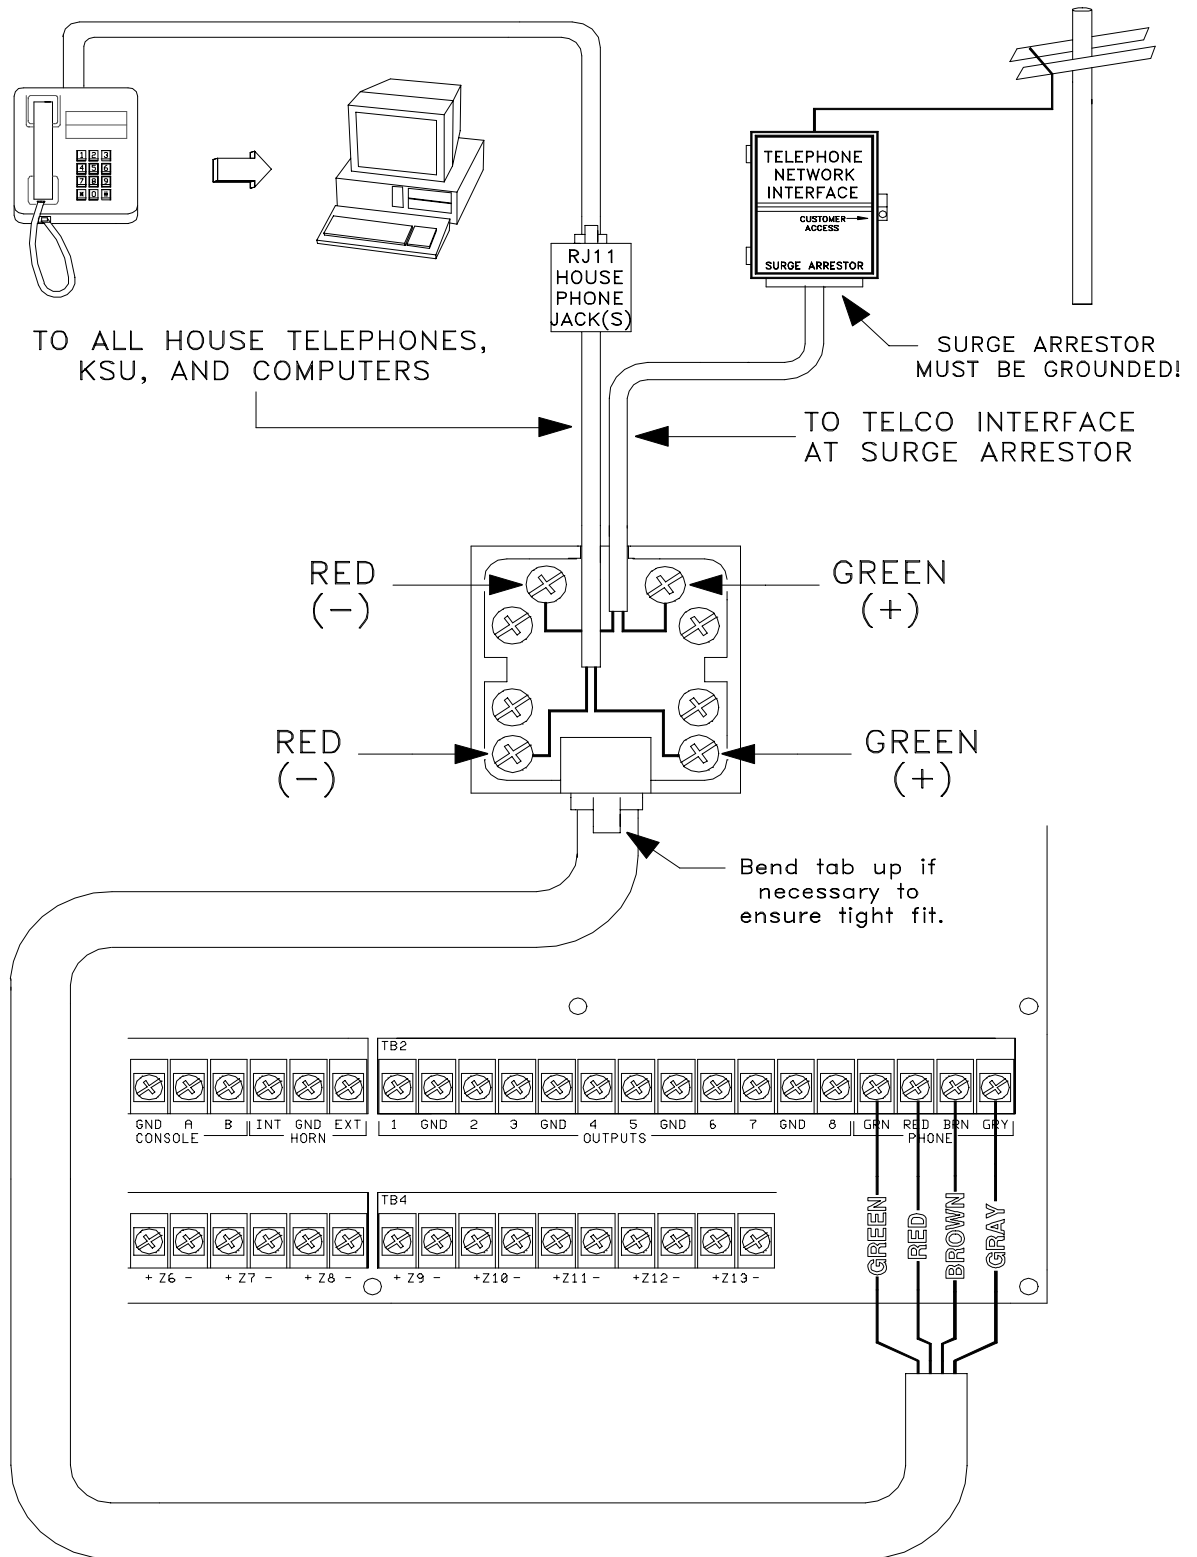

FIGURE 4
7. Refer to **FIGURE 4 (RJ31X JACK CONNECTIONS)** for this configuration.